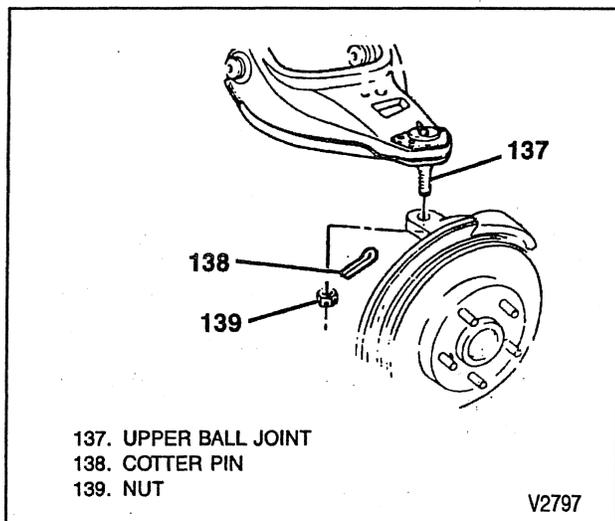

Figure 10—Ball Joint and Knuckle Separation
10. Cotter pin (138) from the upper control arm ball joint stud.
11. Nut (139) (Figure 10).
12. Stud (137) from knuckle (Figure 10).